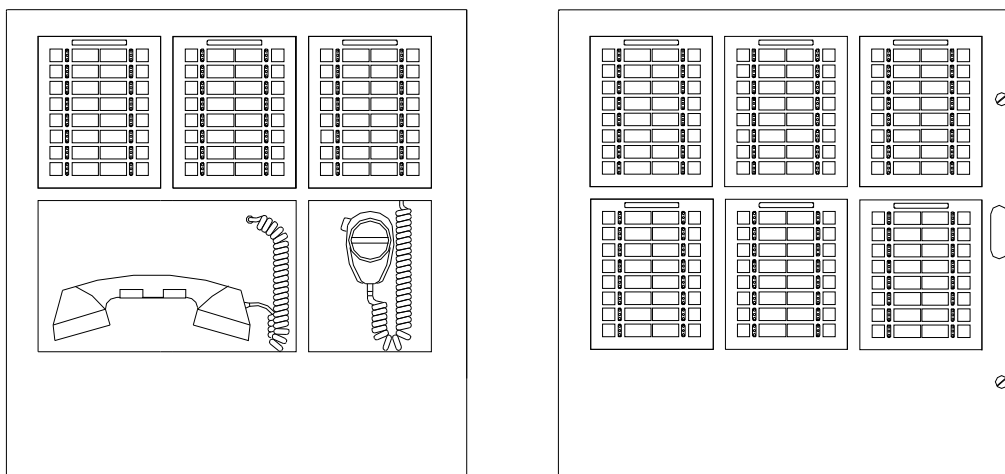

Figure 2.6.1 Typical INCC Command Center
- At a minimum, an INCC-C assembly must include one (1), INI-VGE sub-assembly, one (1), ASM-16 switch sub-assembly, one (1), E3 Series Classic backbox, one (1), INCC inner door, and one (1), INCC outer full plexi-glass door.
- The standard INCC inner door provides six (6) bays to accommodate up to six (6), ASM-16 or ANU-48 sub-assemblies or one (1) NGA.
- Each INI-VGE can support up to six (6), ASM-16 or ANU-48 sub-assemblies. The additional sub-assemblies can be mounted in extra E3 Series Classic backboxes. Unused bays can be covered with blank faceplates.
- An optional voice-paging microphone assembly occupies one (1), standard bay in place of an ASM-16.
- An optional fire fighter's telephone handset assembly occupies two (2), standard bays and requires the use of the INCC-T inner door which combines two bays to accommodate the telephone assembly. See Figure 2.6.1.